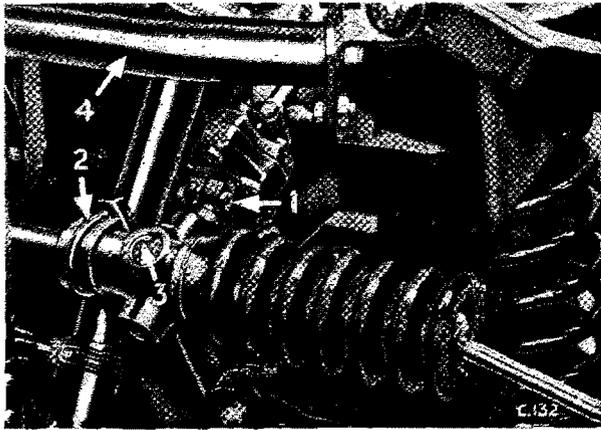

Fig. 6. Steering unit attachment
Remove the bolt (1) from the steering coupling Fig. 6. Remove the nyloc attachment nuts (36) and separate the outer tie rod ball joints from the tie rod levers, as shown on Fig. 3.
Enter the taper pins of the outer tie rod ball joints (32) into the steering levers and fit washers (37) and nyloc nuts (36). Refit the bolt (1) Fig. 6, and nyloc nut to the steering coupling.